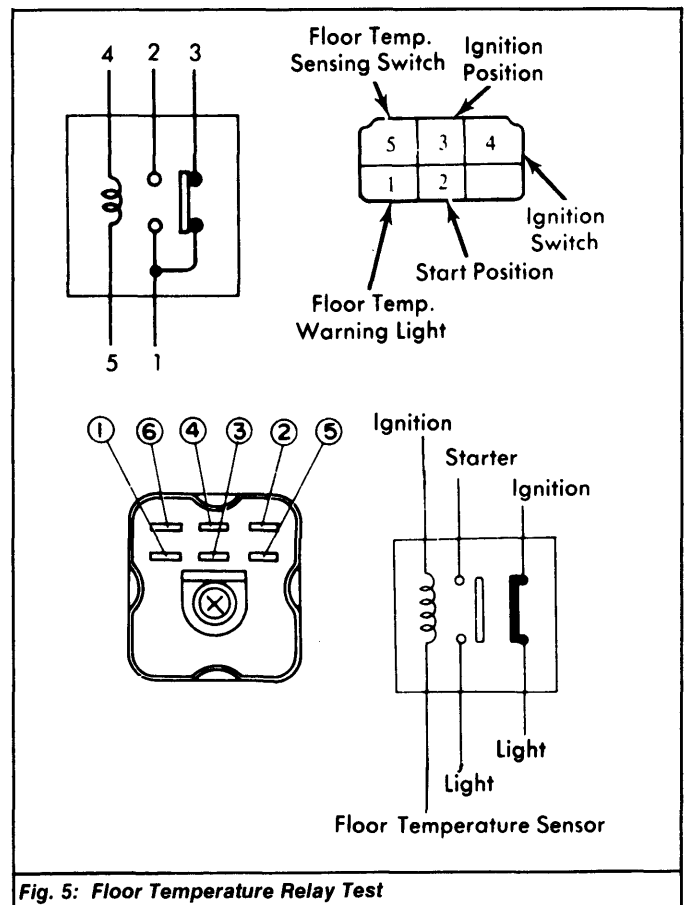

Fig. 5: Floor Temperature Relay Test
5) Remove floor temperature relay from vehicle and check it for continuity and voltage. On terminals No. 5 and 6, and terminals No. 2 and 4 continuity should exist. Terminals No. 1 and 3 should not have continuity. See Fig. 5.
7) Check relay for continuity between pins No. 4 and 5. See Fig. 5. Check that there is continuity between pins No. 1 and 3. Check that there is NO continuity between pins No. 1 and 2.